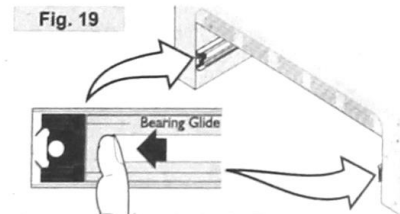

Fig. 19
- Pull the bearing glides to the front of the chassis glide (See Fig. 19).